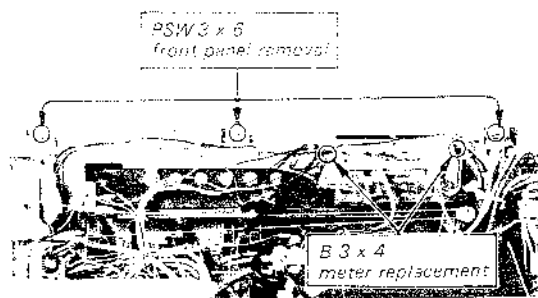

Fig. 2-2. Front panel removal and meter replacement
3. Remove the three screws shown in Fig. 2-2.
1. Remove the meter lamp shade by taking out the two screws shown in Fig. 2-2.